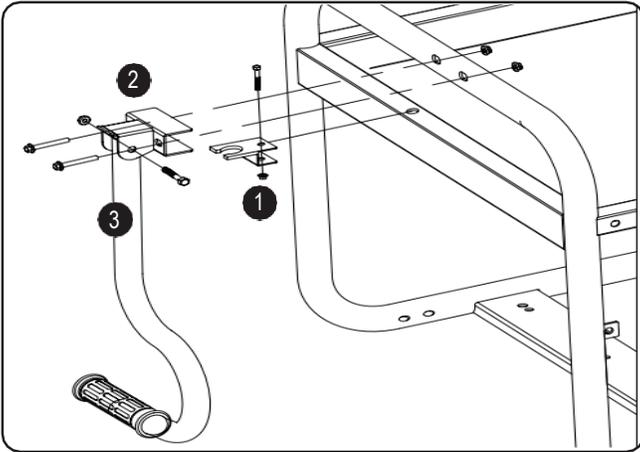

Fig 3
Handle Assembly (See fig 3)
1. Install handle lock holder by inserting bolt and lock nut. (fig 3)